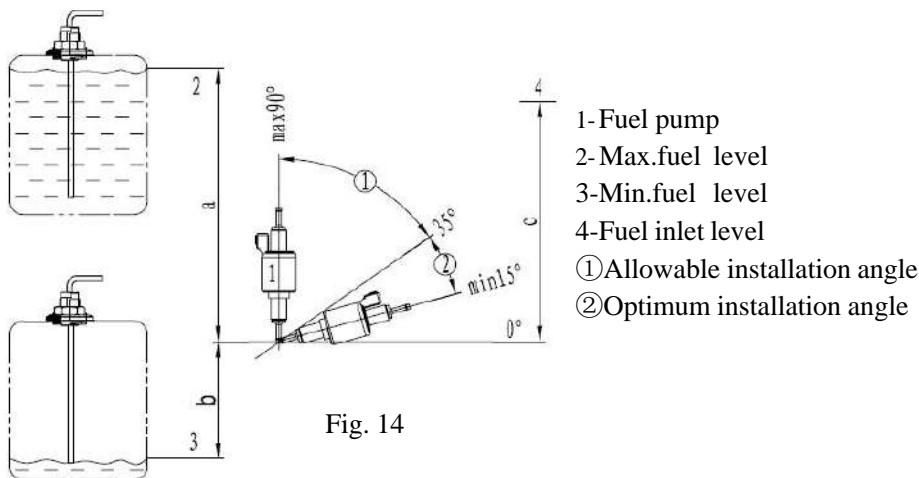

Fig. 14
4.5.1 The fuel pump shall be fixed in automobile with a fuel pump clamp with protective rubber cover. The outlet of the fuel pump shall tilt upwards. The tilt angle can be selected from the range of $15^\circ \sim 35^\circ$ (as shown in Fig. 14). When conditions permit, the fuel pipe between the fuel pump and the heater shall go up gradually.